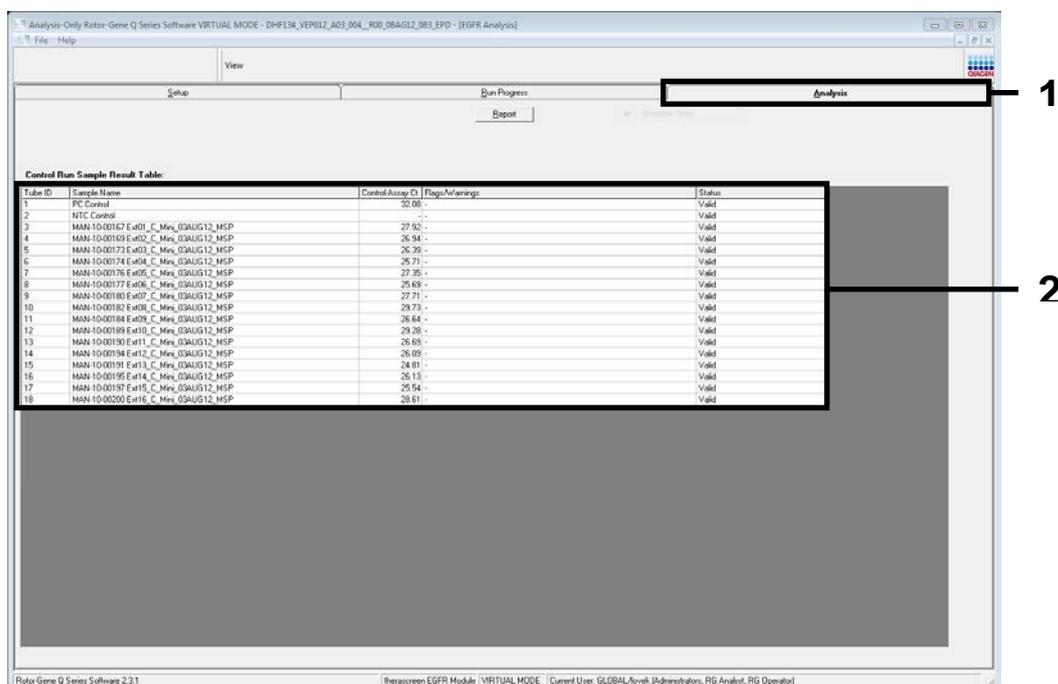

Figure 8. The “Analysis” tab (1) and reporting of results (2 = “Sample QC Result Table”).
Note: If the “Analysis” tab fails to open, click the “Analysis” tab (Figure 8).
20. Control results are reported as follows in the “Sample QC Result Table” (Figure 8).